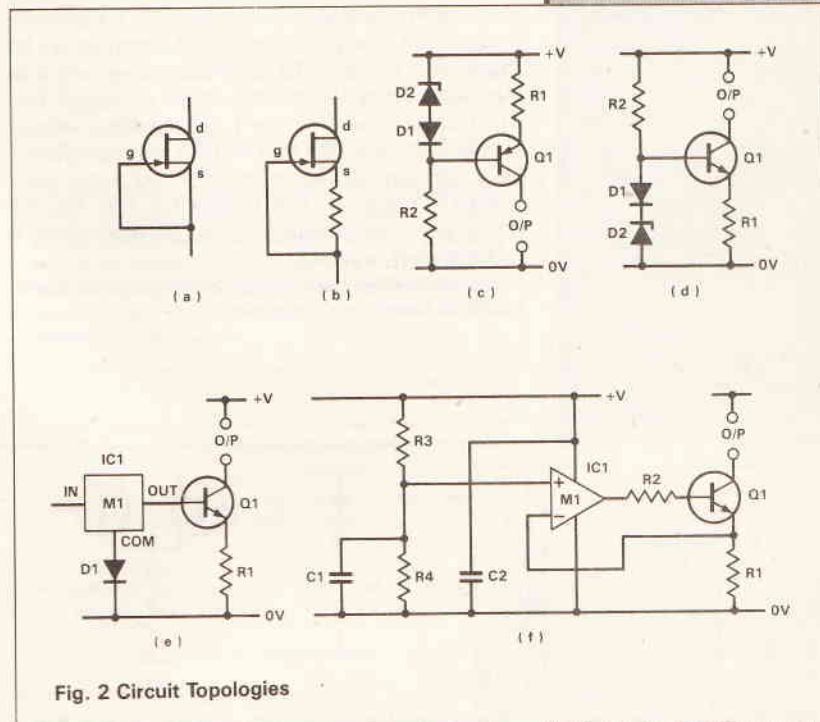

Fig. 2 Circuit Topologies
The first and simplest circuit is shown in Figure 2(a). This uses an n-channel JFET with its gate and source linked. With the voltage between gate and source V_{GS} at zero and the voltage between gate and source V_{DS} at a few volts or greater, the drain current is reasonably constant. The saturation drain current I_{DSS} spread is quite wide, so it is not possible to predict an accurate
More advanced circuits are shown in Figure 2(c) and Figure 2(d). This is a much more accurate and predictable circuit. To a large extent it is independent of the transistor characteristics and can be used for much higher currents. The diode (D1) connected to the base of the transistor, compensates for the V_{BE} temperature drift of Q1. The voltage across R1 is therefore determined by the voltage of the zener diode (D2). The bias current for D2 is set by voltage drop across resistor R2. The two main causes of variation in this circuit are supply voltage changes and the bias current and thermal characteristics of the zener diode. The transistor chosen should have a large h_{FE} , so that the base current will be negligible compared to the zener diode bias current.
Figure 2(e) shows a transistor circuit with its reference derived from a voltage regulator, which is used as an accurate voltage source that is largely independent of temperature and supply rail variations. D1 is added to compensate for V_{BE} variations of Q1. Thus the current is determined by M1 and $V_{out}/R1$.
Figure 2(f) shows a circuit using an op-amp. It is configured as a voltage follower with Q1 and R2 inside the feedback loop. This automatically compensates for the characteristic variations of Q1. R2 is inserted as a current limiting resistor which also prevents oscillations due to parasitic capacitance in the circuit. The voltage across R1 is maintained by the op-amp to that of the reference voltage, which in this case is derived from the potential divider R3, R4. The circuit shown assumes a well regulated voltage supply. If this is not the case then R4 may be replaced by a bandgap diode, or alternatively a precision voltage-reference IC may replace R3, R4. R3, R4 could also be replaced by a potentiometer if adjustment is required.
Figure 3(a) shows a constant current circuit as an electronic load, for example, as a constant current variable load for use in test equipment. The circuit shown in Figure 2(f) is suitable for this application and if we derive V+ from the collector of Q1, then we have a constant resistance load. If the power supply voltage increases, the op-amp V_{ref} also increases in direct proportion and therefore so does the current through Q1, R1.
Figure 3(b) shows how a constant current is used as a linear ramp generator. The circuit of Figure 2(c) can be used here. A capacitor is placed between Q1 collector and 0V, which may be discharged by a transistor also connected across these two points. Since $Q = It$, we can see that the capacitor must charge linearly with time (T) if current (I) is constant.